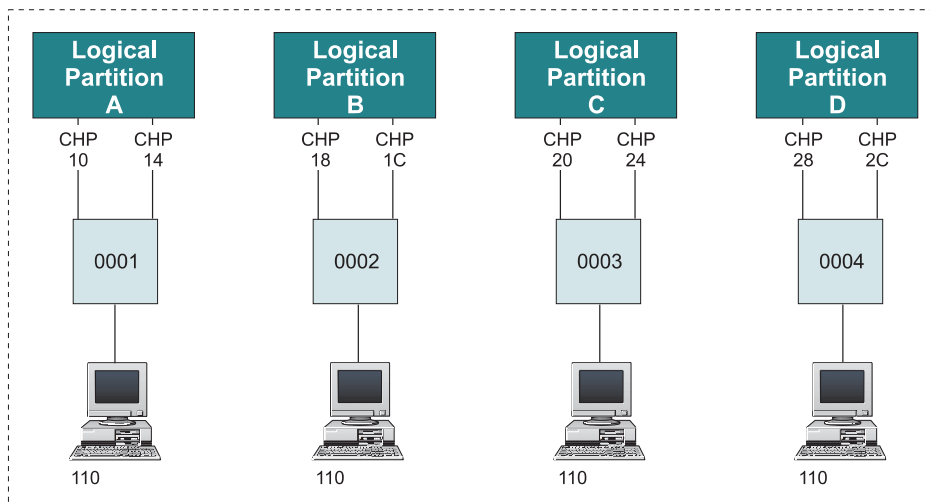

Figure 20. Duplicate device numbers for console
If 8 or less channels attach to the device, this method of defining the IOCP input provides greater flexibility because it allows you to move CHPIDs from one LP to another and eliminates possible conflicts (see Figure 20 on page 60).
Figure 20 shows another example of a logical partition configuration in which the device number for a console (110) is duplicated for all four logical partitions.